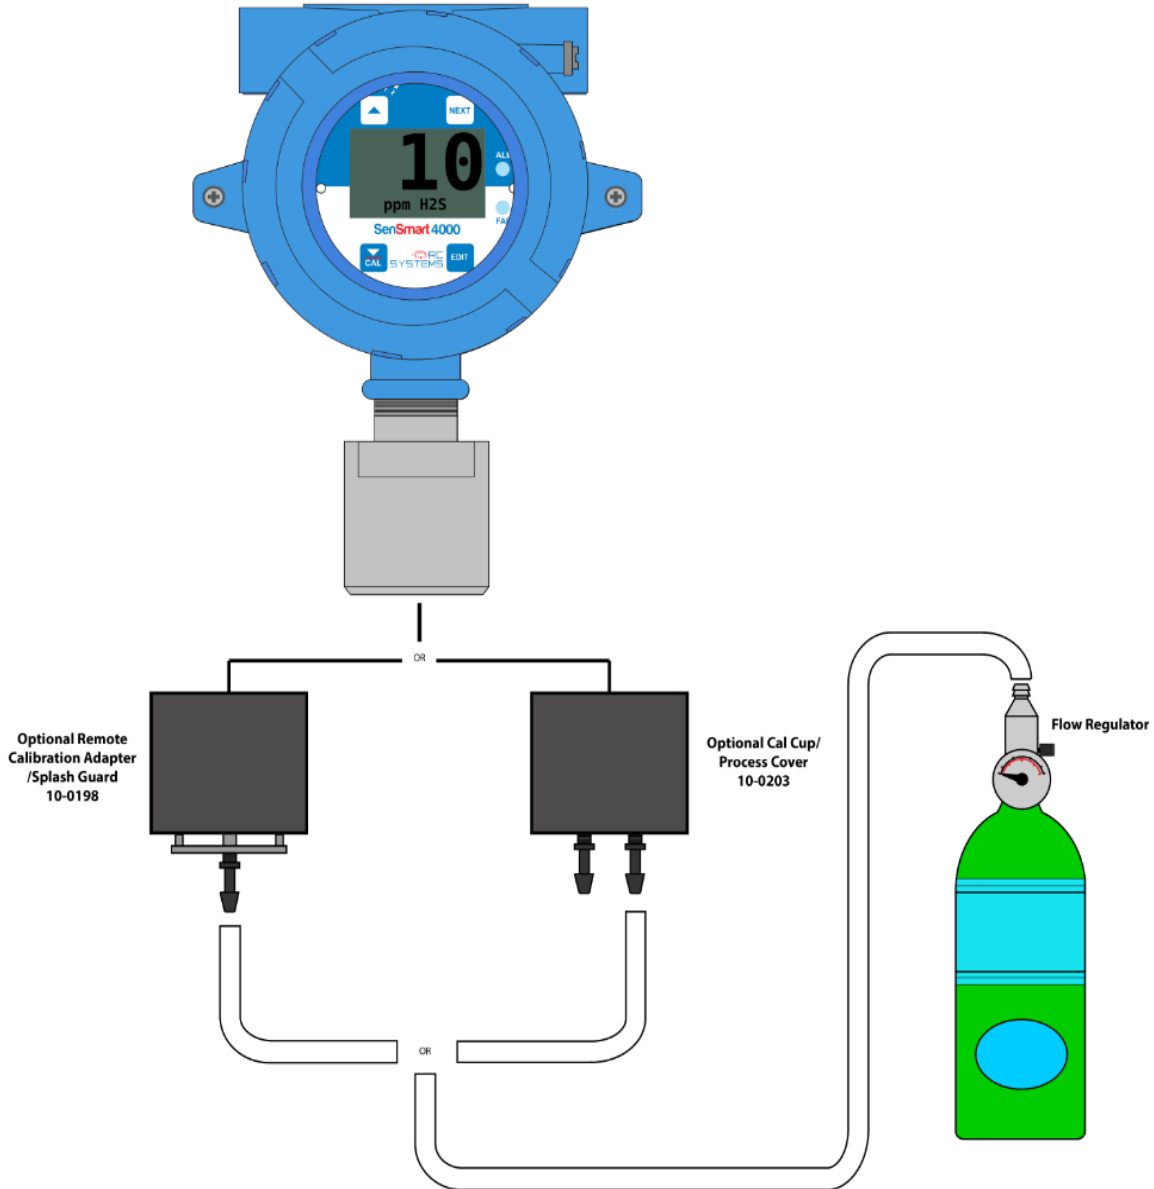

Figure 6 Calibration Diagram
3. Apply a clean Zero Gas (Figure 6), using the Calibration Cup or be sure there is no background target gas in the monitored area. After the reading is stable, swipe the *Edit* key to set the Zero Calibration. To skip the Zero calibration, and go to the Span calibration, swipe the *Next* key. Once a message that the Zero calibration was completed successfully has been displayed, proceed to the next step.
4. Apply the correct, as indicated, span gas (Figure 6). After the reading is stable, swipe the *Edit* key to set the Span Calibration. To skip the Span Calibration swipe the *Next* key. When a message that the Span Calibration was completed successfully is displayed, the gas detector will exit back to the Data Display Screen.